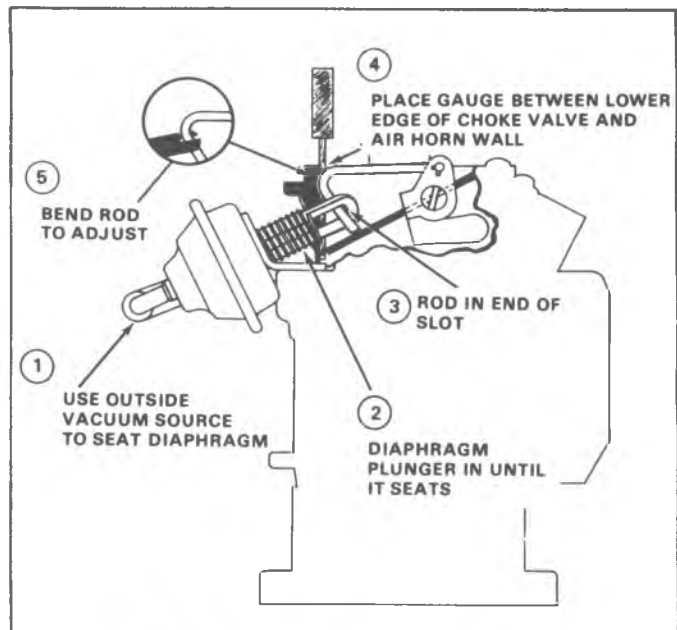

Fig. 7C--Vacuum Break Adjustment (MV)
**CHOKE VACUUM BREAK ADJUSTMENTS MV (Fig. 7C)**